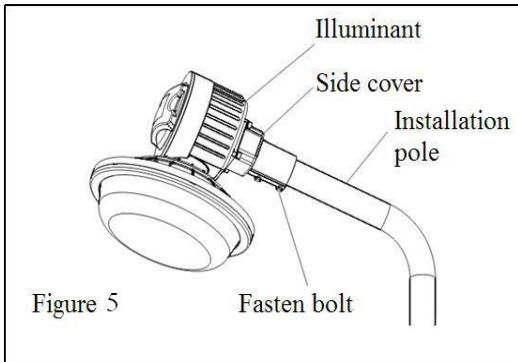

Figure 5
15. Model D(D-guard pole type and E-flange pole type), screw the two M6 bolts on the side cover into the screw holes in the installation pole then fasten them to ensure the reliable fastening of the light(See Figure 5).